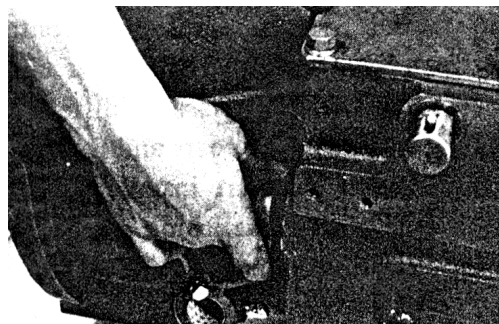

Fig. 3-14
(2) Draw out the shaft arm little (Fig.3-14).